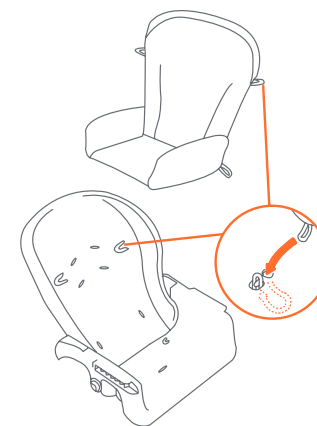

Fig. 19
- 19) • Loop the flap on the back of the pad over the top of the Seat Back. Connect the Seat Pad to the Seat Back with the two Elastic Loops. These fit over the Attachment Tabs located near the top harness slots (Fig. 19).